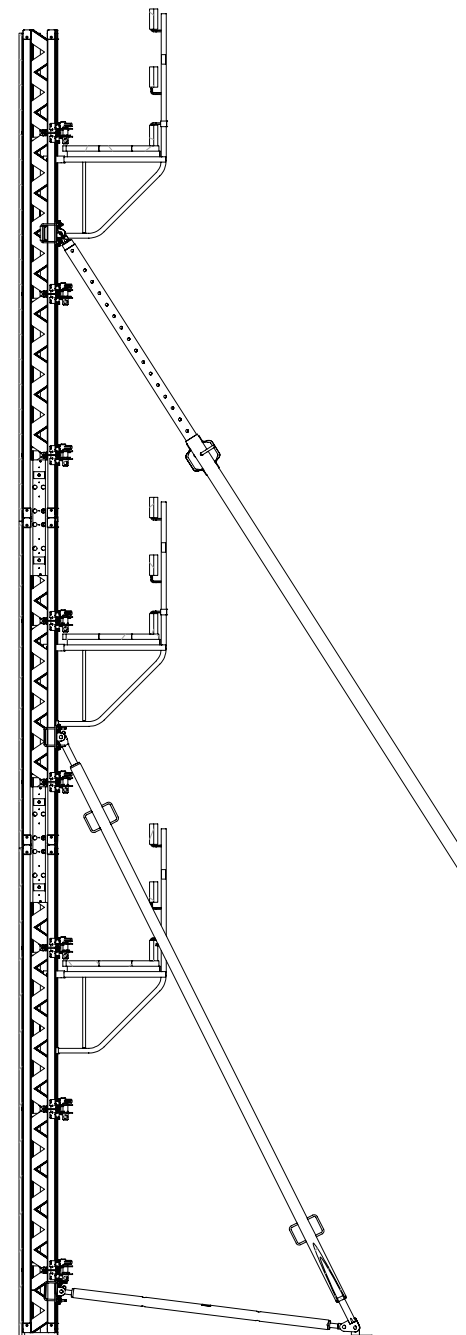

Fig. A4.07
7. Align extension panel. (Fig. A4.07)